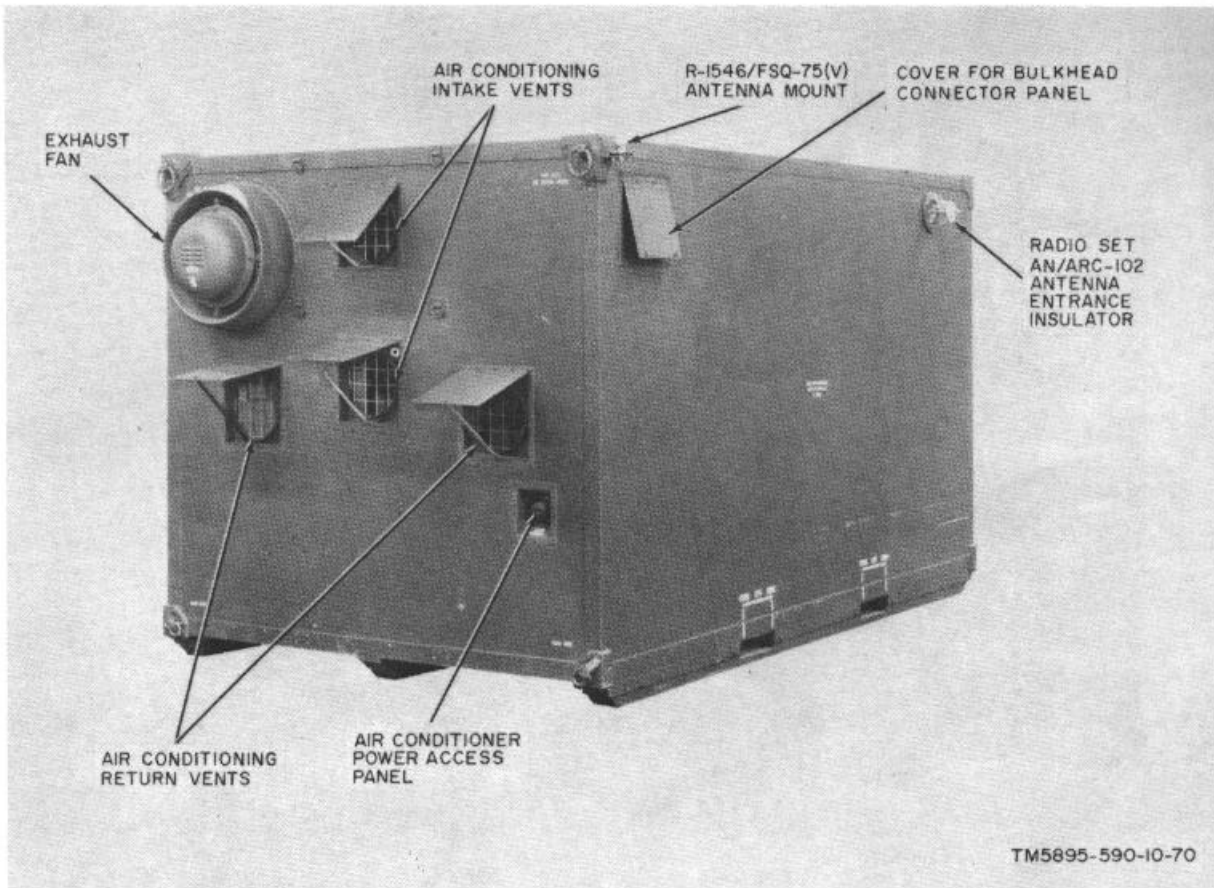

Figure 1-25. Shelter, Electrical Equipment S-417/FSQ-75(V), oblique rear view.
(3) The equipment shelter can be transported by truck or air. Lifting eyes, tiedown clamps, and forklift access slots necessary for transporting the equipment shelter are a physical part of the framework.
(4) Connections to two AN/ARC-102 ssb antennas are made at feedthrough receptacles in the roadside and curbside walls of the equipment shelter. Connections to the remaining antennas and to the interconnecting cabling from the control tower are made at a bulkhead connector panel in the roadside wall (fig. 1-25).